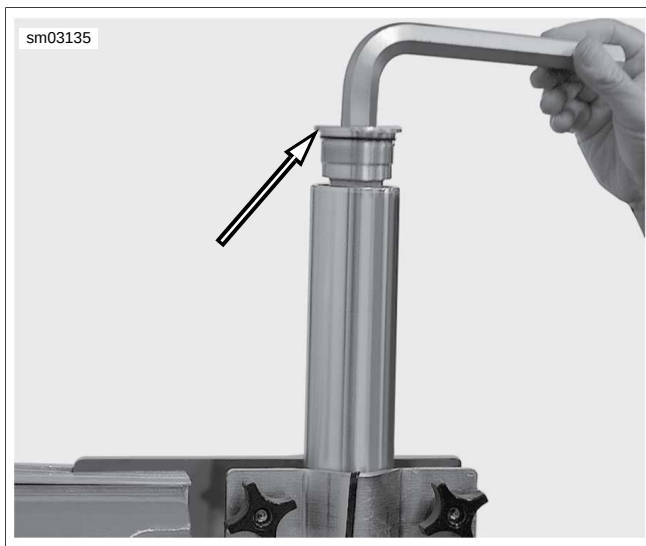

Figure 1-80. Clamp Fork and Remove Fork Cap
1. See Figure 1-80. Using *FORK TUBE HOLDER* (Part No. HD-41177), mount fork assembly in vise.